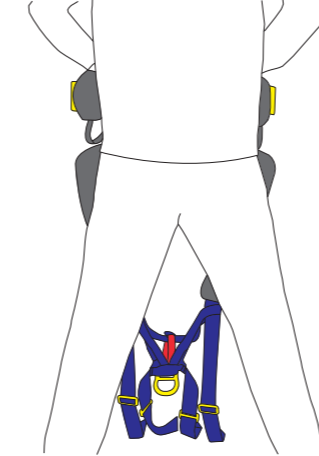

Fig 2
3. Pull the central attachment point up through the legs. (Fig 2)